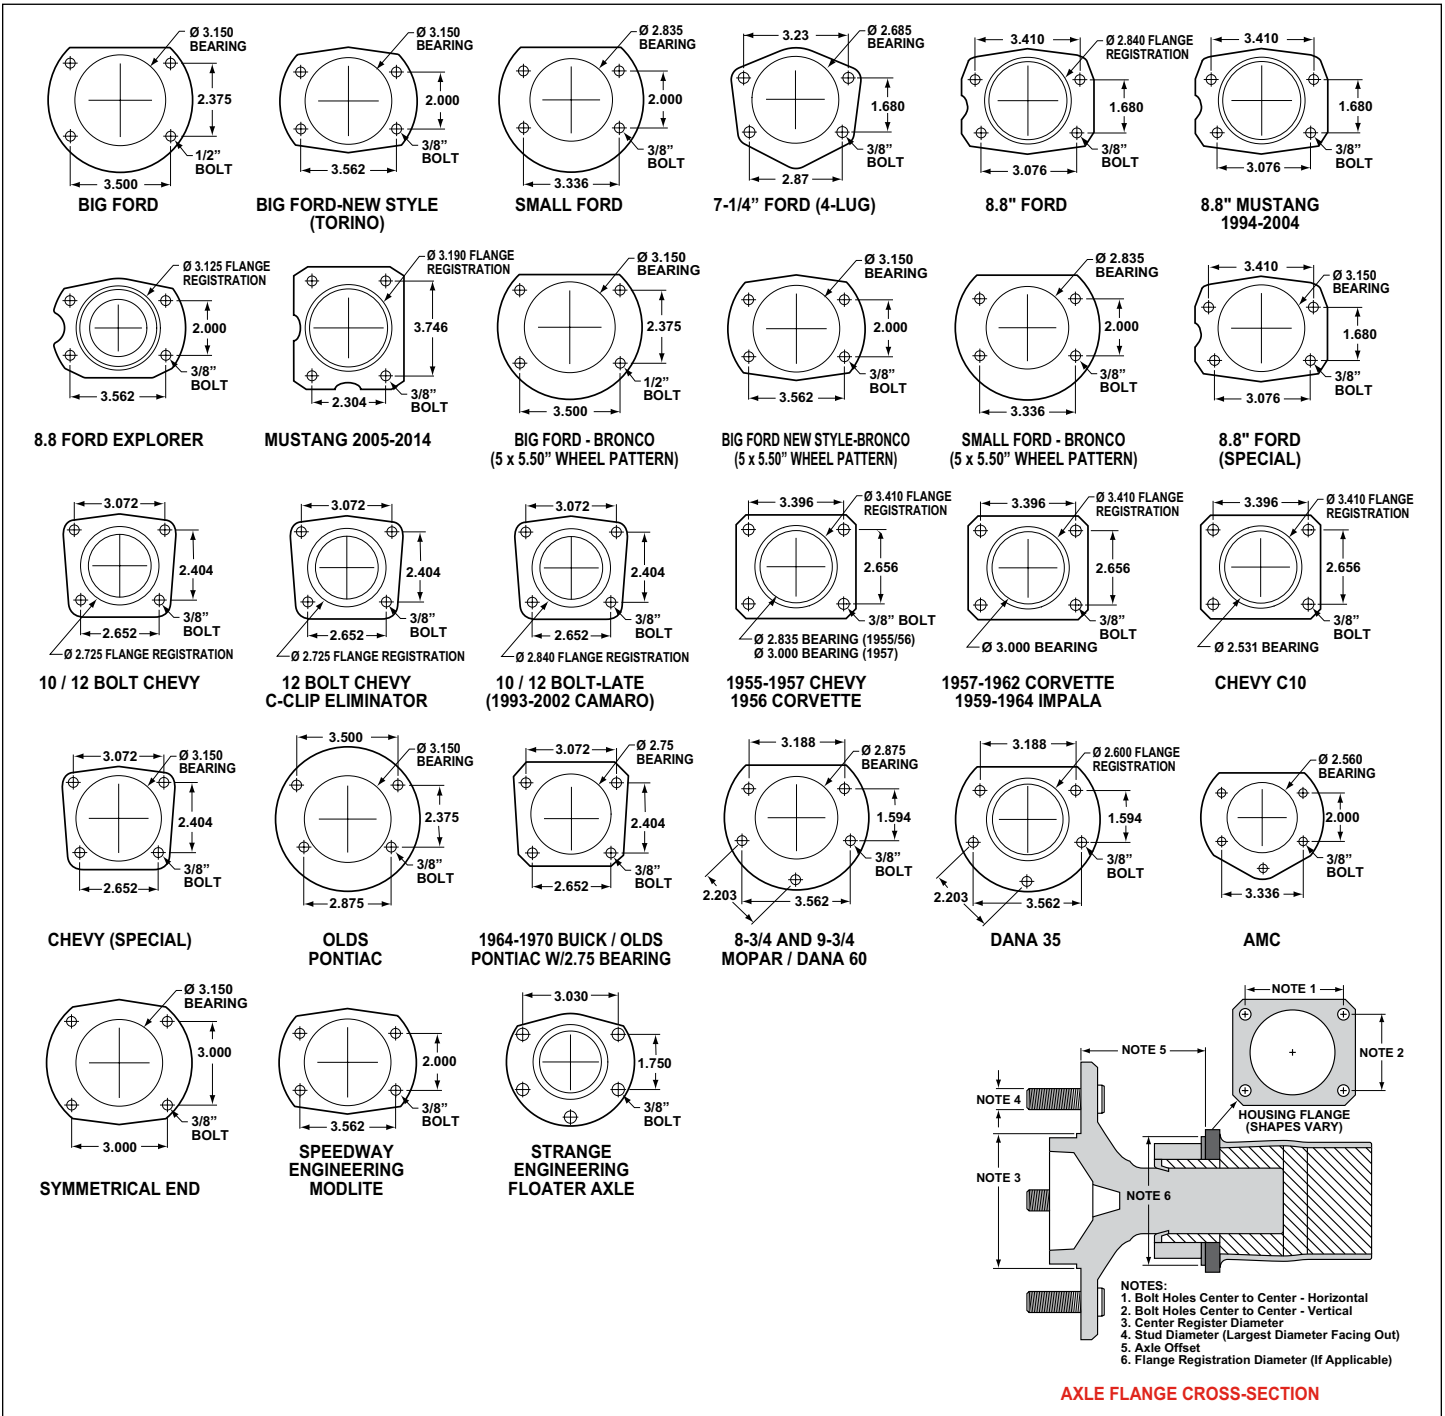

Figure 6. Rear Housing Flange Chart and Axle Flange / Offset Cross-Section
• Make sure this is the correct kit to fit the exact make and model year of your vehicle. This kit is designed for direct bolt-on installation to 1955 - 1957 Chevrolet and 1956 Corvette axle housing flange. Reference Figure 6, 1955-57 Chevy / 1956 Corvette diagram. This kit comes with two sizes of axle shims. Use the 2.40 I.D. x 2.74 O.D. for model years 1955/56, and use the 2.60 I.D. x 2.94 O.D. for model year 1957.
- Dimension from wheel side of axle flange to wheel side of axle housing flange (see Figure 6, lower right hand corner). This dimension is critical to ensure proper alignment of the rotor to the caliper, and should match offset given in the kit description.